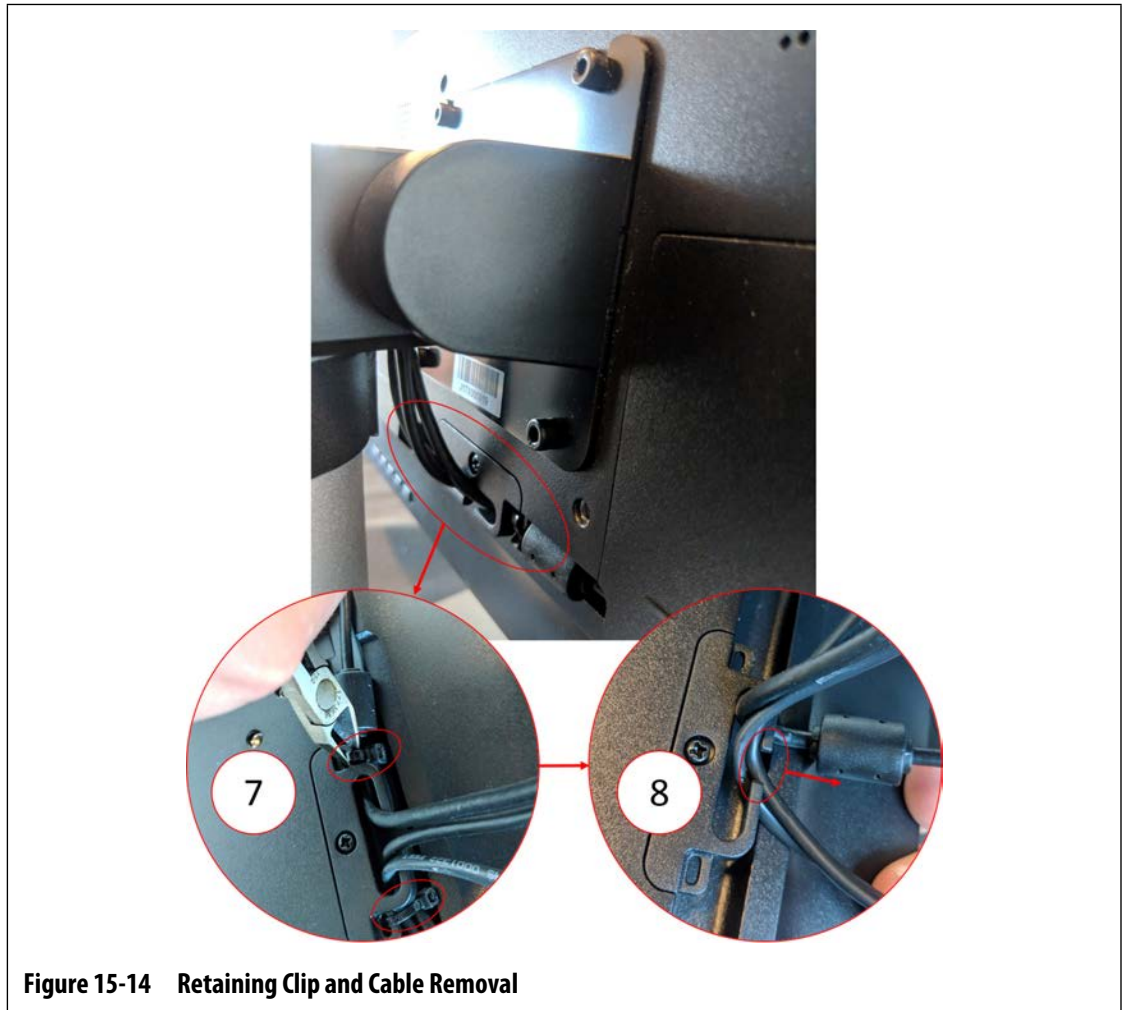

Figure 15-14 Retaining Clip and Cable Removal
9. On the back of the touch monitor, towards the lower center area, find the “C” shaped cable retaining clip and cut the cable ties to either side of it. Refer to callout 7 in Figure 15-14.
10. Remove the cables from the retaining clip. Refer to callout 8 in Figure 15-14.